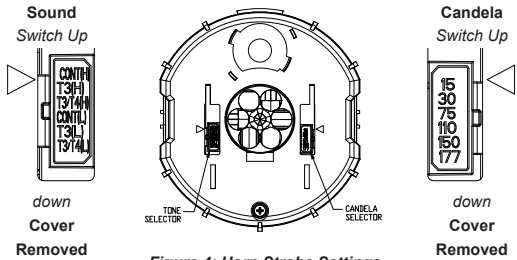

Figure 4: Horn Strobe Settings
5. Verify appliance settings are correct for your application. Factory settings are T3(H) for horn (Code 3, High dB), and 15 cd for strobe. Settings are shown in Figure 4. Sound setting is visible with cover removed.